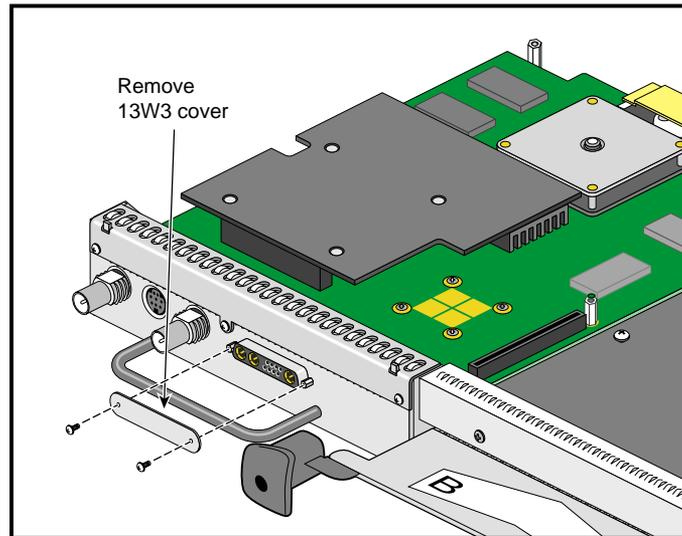

Figure 1-27 Removing the 13W3 Cover
5. Remove the two screws securing the 13W3 cover to the VPro Graphics Board, then remove the cover, as shown in Figure 1-27.